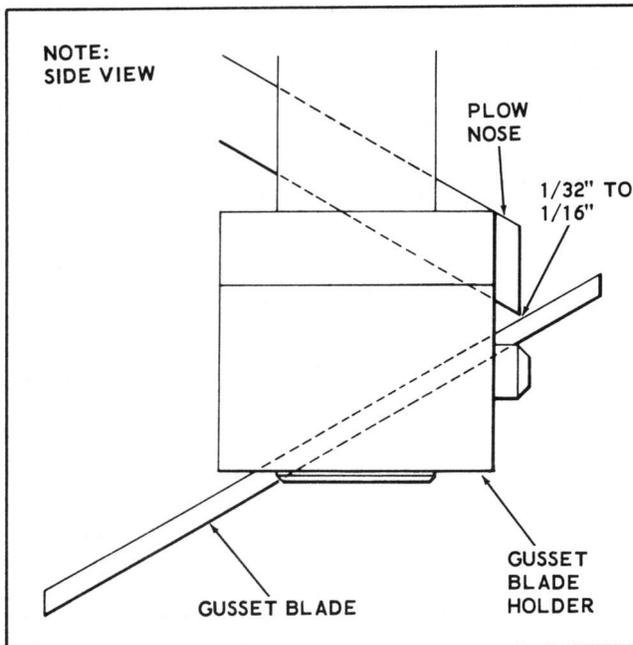

Figure 3-11. Adjusting Distance Between Gusset Blade and Plow Nose
- b. Adjust the distance between the top of gusset blade and bottom of plow nose for $1/32$ to $1/16$ inch as shown in Figure 3-11.